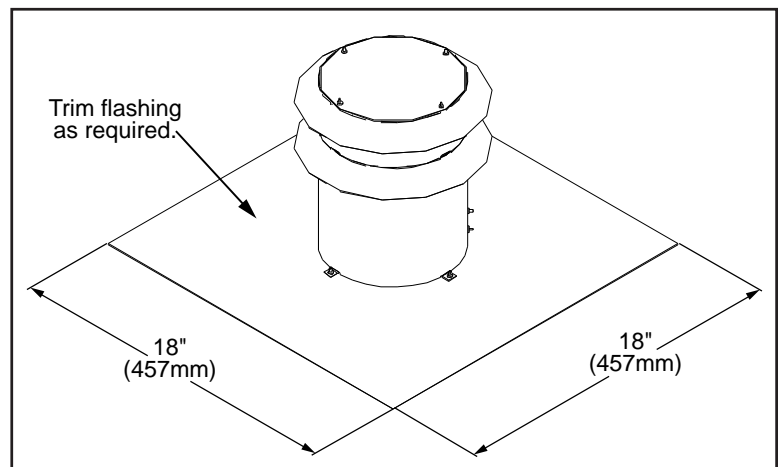

Figure 28: Generic Vent Cap Dimensions.
4. Most vent caps can be installed onto chimneys with flue openings up to 16" (406mm) x 16" (406mm) and the actual flashing is 18"x18" (refer to Figure 28). If the chimney is smaller the cap should be trimmed down and folded over.
5. Apply a bead of stove cement sealant to the top section of the Ø3" (76mm) exhaust vent collar plate. Slide the Ø3" (76mm) flex vent over the flue collar and secure with three (3) sheet metal screws evenly spaced.
6. Place a bead of high temperature silicone on the intake collar of the fireplace, slide the Ø3" (76mm) flex intake liner over the collar, secure the flex liner with three (3) sheet metal screws evenly spaced.
7. At the top of the chimney, apply a bead of stove cement sealant to the Ø3" (76mm) pipe of the exhaust vent terminal. Slide the flex liner onto the vent terminal and secure with three (3) sheet metal screws evenly spaced.
8. Place a bead of high temperature silicone on the intake collar of the vent terminal. Slide the Ø3" (76mm) flex intake liner over the collar, secure the flex liner with three (3) sheet metal screws evenly spaced.